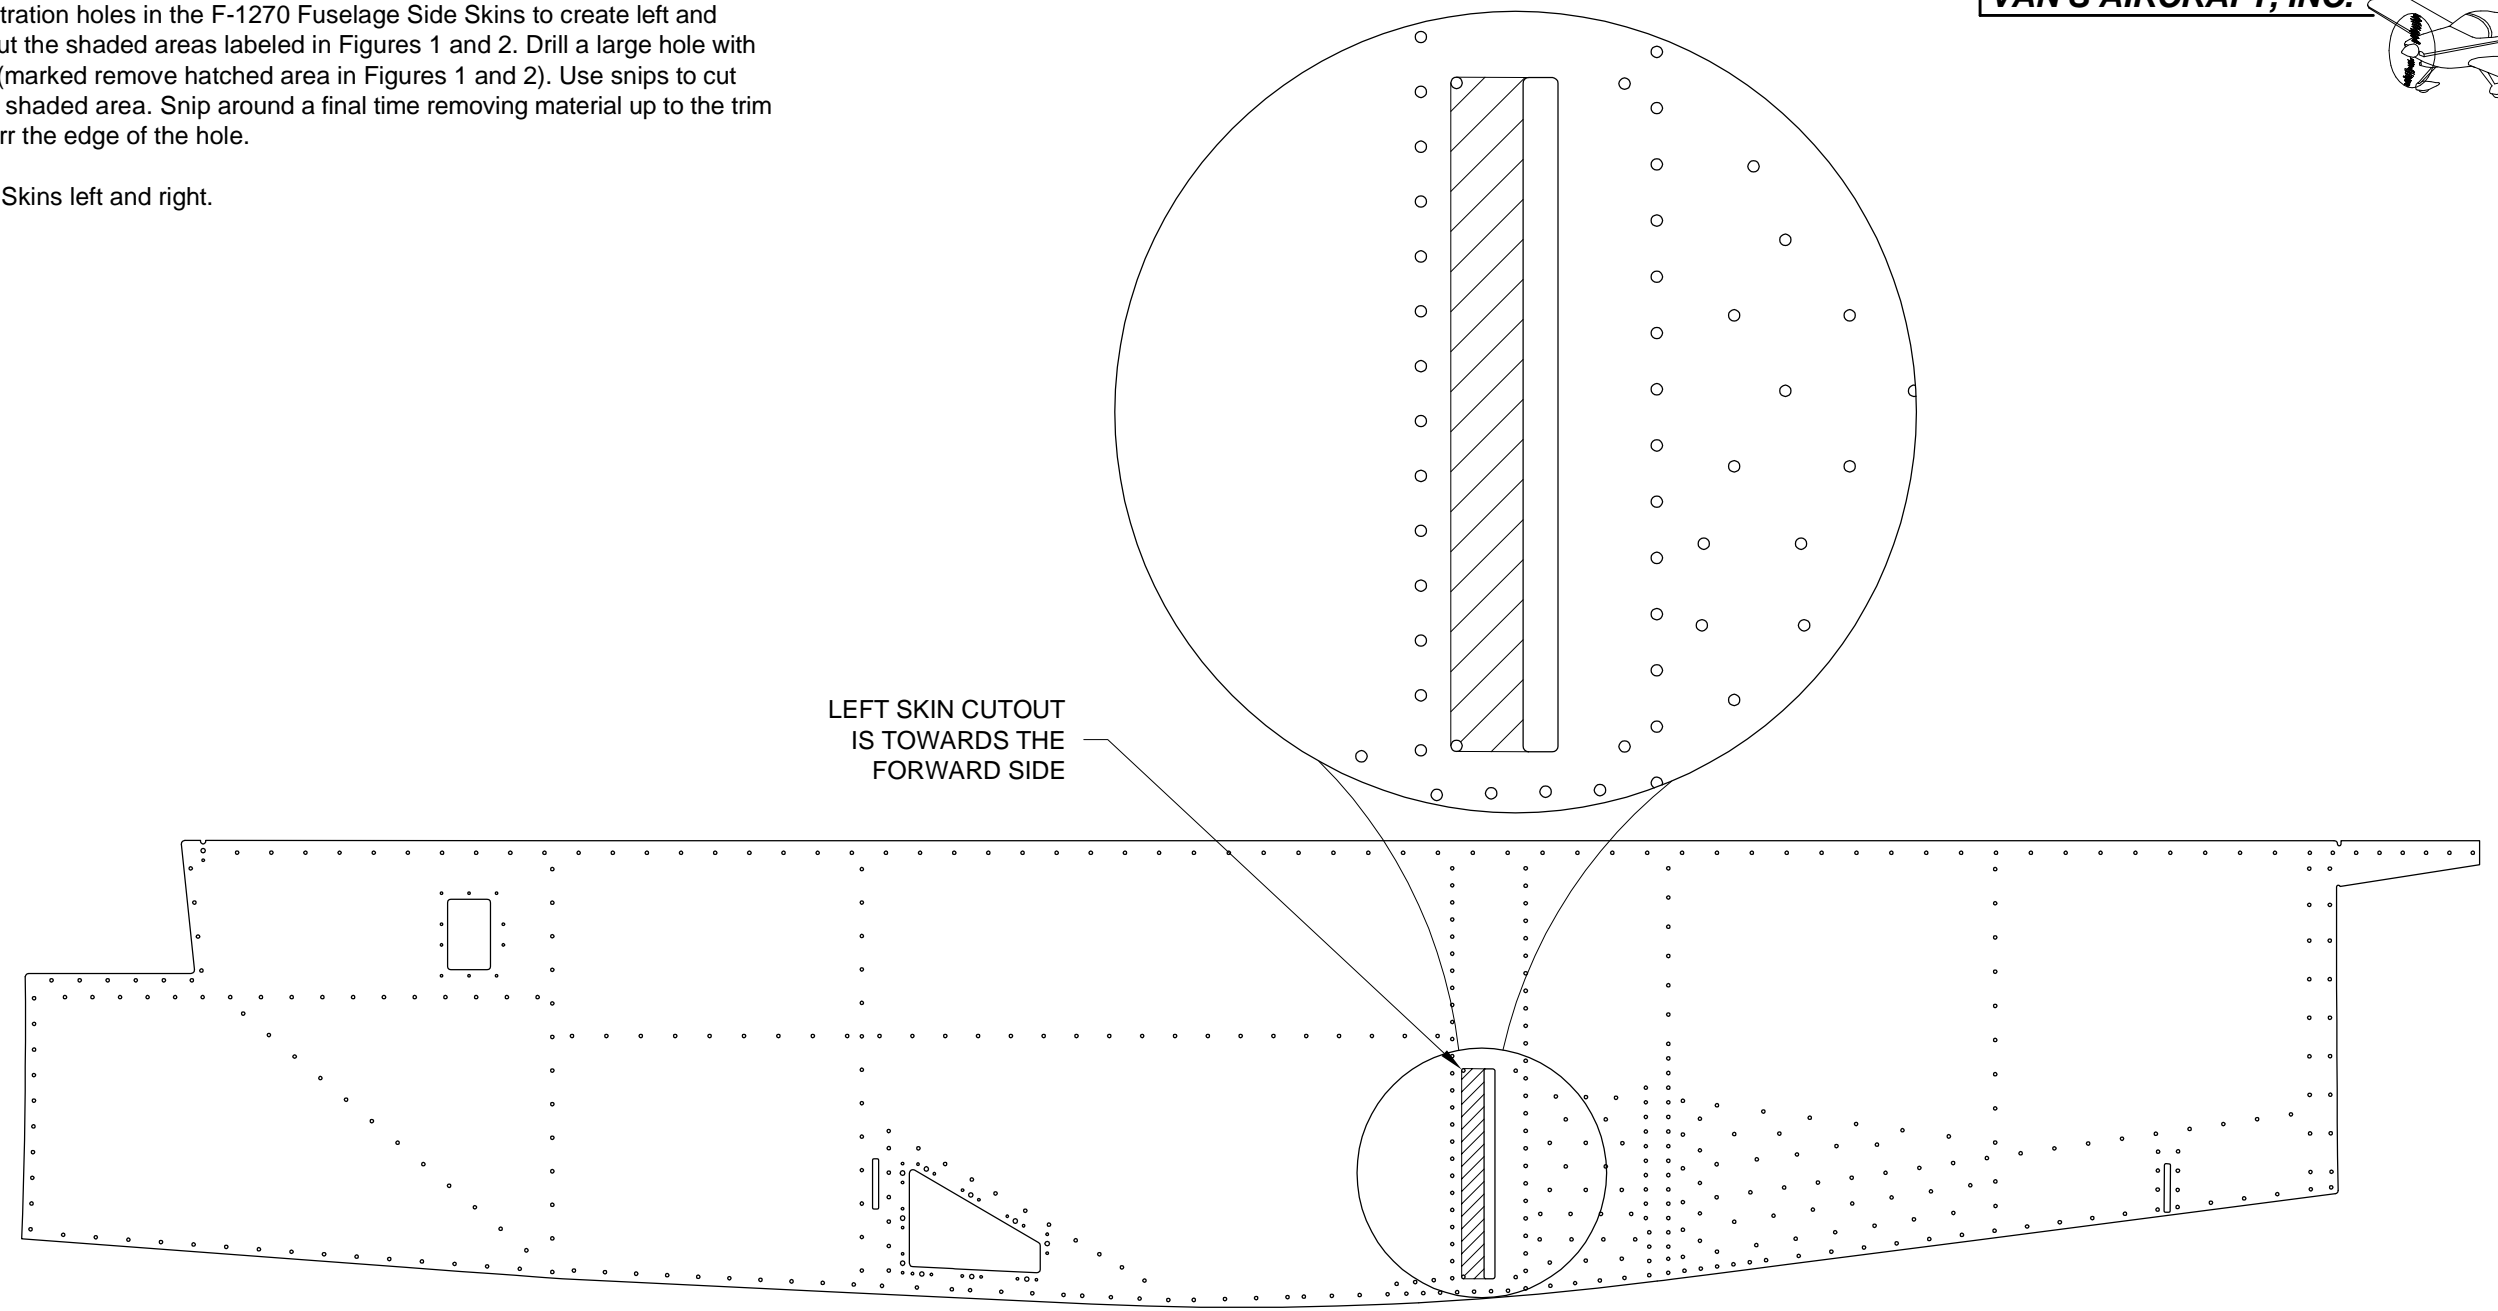

FIGURE 1: MAKING THE LEFT SKIN SPAR CUTOUT
Step 1: Rivet the F-1202L Gussets to the F-1202E-L & -R Bulkhead Side Channels as shown in Figure 1.